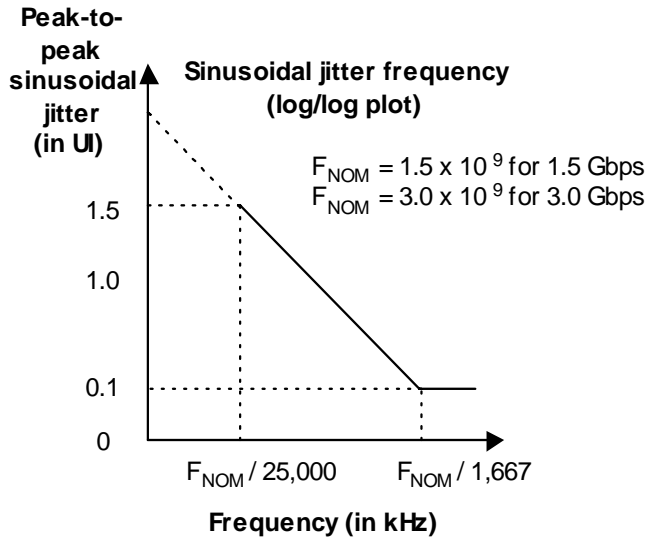

Figure 18. Sinusoidal jitter mask
Figure 18 defines the sinusoidal jitter mask.
- b The jitter values given are normative for a combination of deterministic jitter, random jitter, and sinusoidal jitter that receivers shall be able to tolerate without exceeding a BER of  $10^{-12}$ . Receivers shall tolerate sinusoidal jitter of progressively greater amplitude at lower frequencies, according to the mask in figure 18 with the same deterministic jitter and random jitter levels as were used in the high frequency sweep.